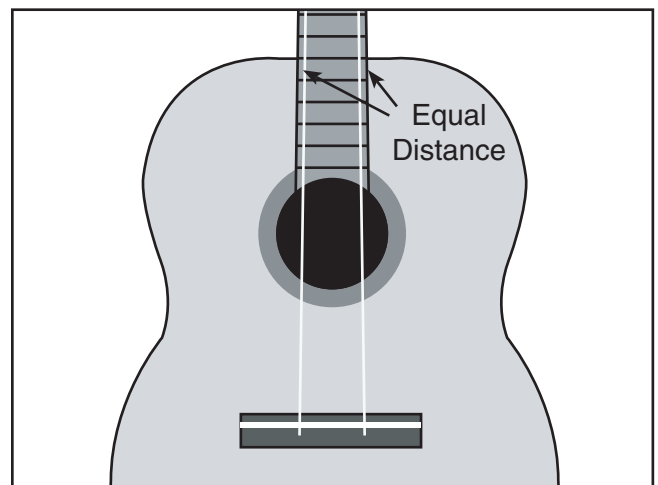

Figure 7. Positioning the bridge across the width of the guitar.
The correct distances between the inside edge of the nut, the center of the 12th fret and the center of the bridge saddle slot are crucial to the performance of this guitar. **Figure 7** shows the correct distances.
5. Adjust the bridge so there is an equal amount of space between the fingerboard edges and the threads (**Figure 7**).